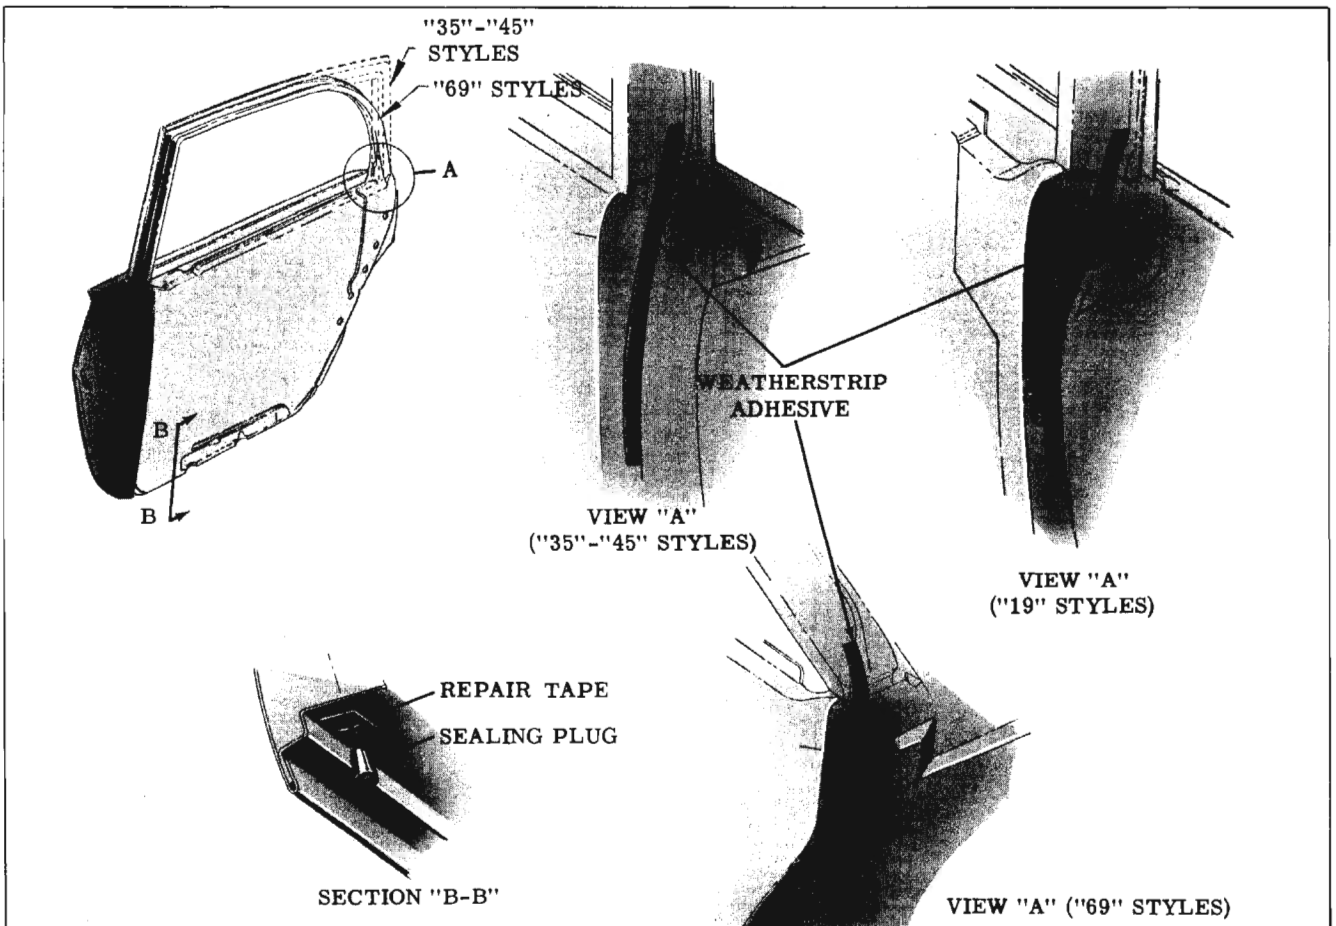

Fig. 16-43 Rear Door Weatherstrip Adhesive Application
3. Carefully break cement bond securing weatherstrip to door. If necessary, a putty knife can be used to help break cement bond. (Fig. 16-43)
3. Clean off old cement from door to insure a clean cementing surface. Apply a bead of weatherstrip adhesive to hinge and lock pillar facings of door. Begin adhesive application slightly above belt line and continue down door for approximately seven to nine inches. If necessary, weatherstrip adhesive can also be applied to lower corners of door. (Fig. 16-43)